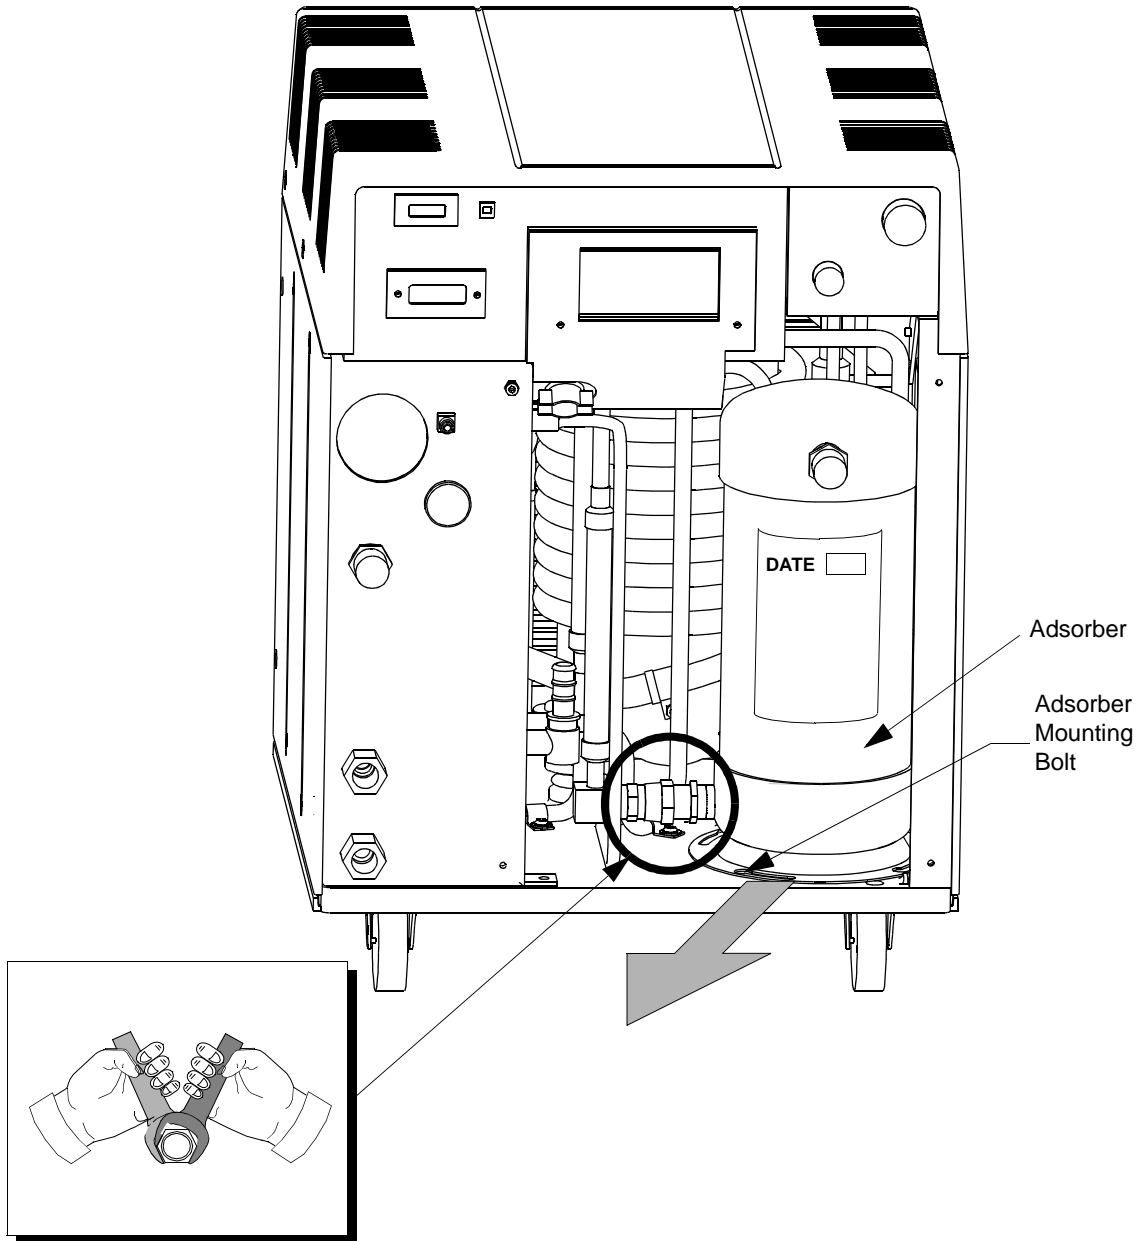

Figure 5-2: Adsorber Location, 9600 Compressor (Rear Panel Removed)
4. Using a 7/16 in. (11mm) wrench, remove the adsorber mounting bolt as shown in Figure 5-2.
5. Move the adsorber from under the mounting tabs in the base as shown in Figure 5-2 and remove the adsorber from the Compressor.
10. Record the adsorber replacement date on the label as shown in Figure 5-2, and also note that the next adsorber replacement should be performed every three years.